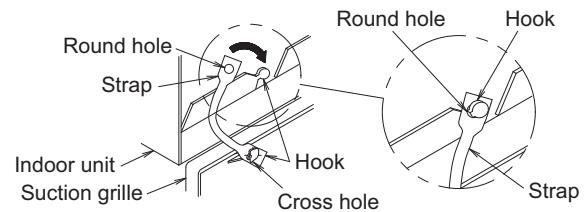

Fig. 38
- When installing the suction grille, hang the string of the suction grille to the hanging part of the indoor unit shown Fig. 38.